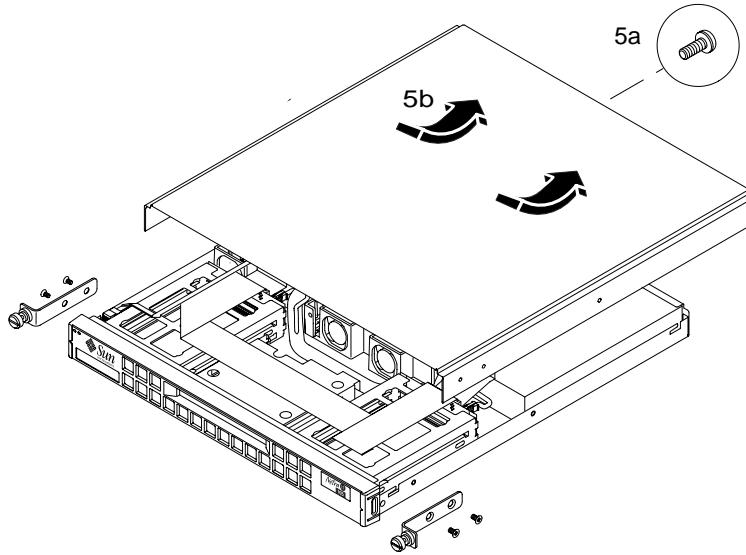

FIGURE 4-4 Removing the Top Cover
- 5. Remove the system's top cover (see FIGURE 4-4).**